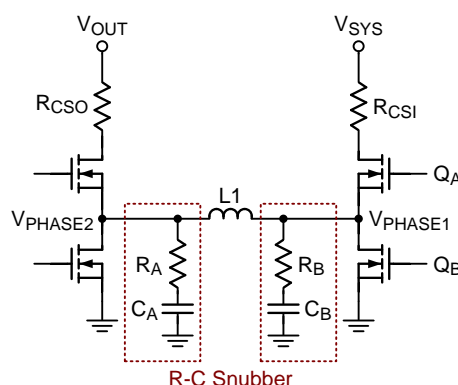

Figure 7. R-C Snubber Circuit
- ▶ Place R-C snubber circuit next to the inductor (L1) to reduce the slew rate of the inductor current to avoid switching noise, as shown in Figure 7.